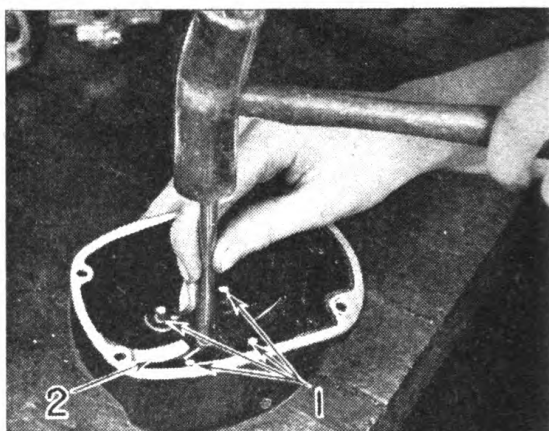

Fig. 67. Driving Center Brush Into Place
- (c) Be sure center brush is not worn down below brass retainer. If it is to be replaced, remove the old brush. Assemble new one in place and drive into position with driving tool for center brush No. 15 Fig. 37 and composition mallet No. 4 Fig. 37 as used in Fig. 67.
20. If magneto does not ground out when you press the outside grounding spring to the screw, remove the distributor cap. Bend inside grounding spring Fig. 67 so it will touch breaker spring screw when cap is replaced.